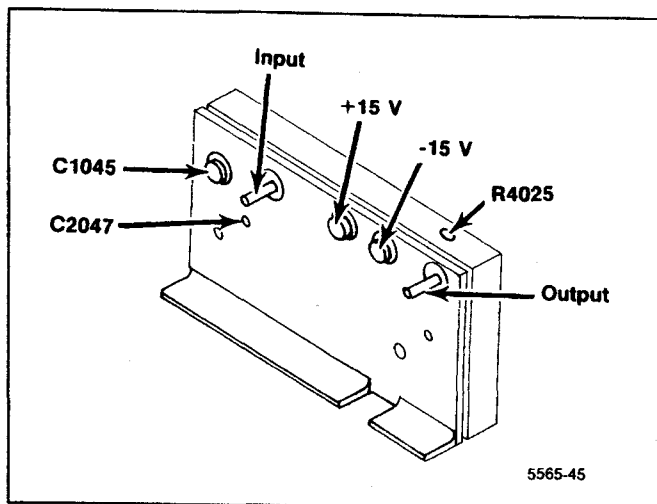

Figure 6-10. 110 MHz IF test points and adjustments.
6. Adjust C2047 and C1054 (Figure 6-10) simultaneously for minimum signal amplitude on the spectrum analyzer display. Minimum amplitude must be at least -55 dBm.